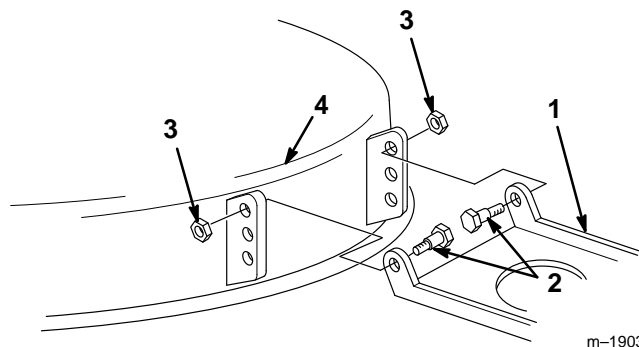

Figure 51
11. If the 1/4" to 5/8" (6 mm to 16 mm) front slope cannot be achieved by rotating the slope adjusting nut, move the mower pivot mount at the mower (Fig. 51).
12. Remove the shoulder bolts and lock nuts from the mower (Fig. 51).
13. Lower the mower pivot one hole and install the shoulder bolts and lock nuts (Fig. 51).